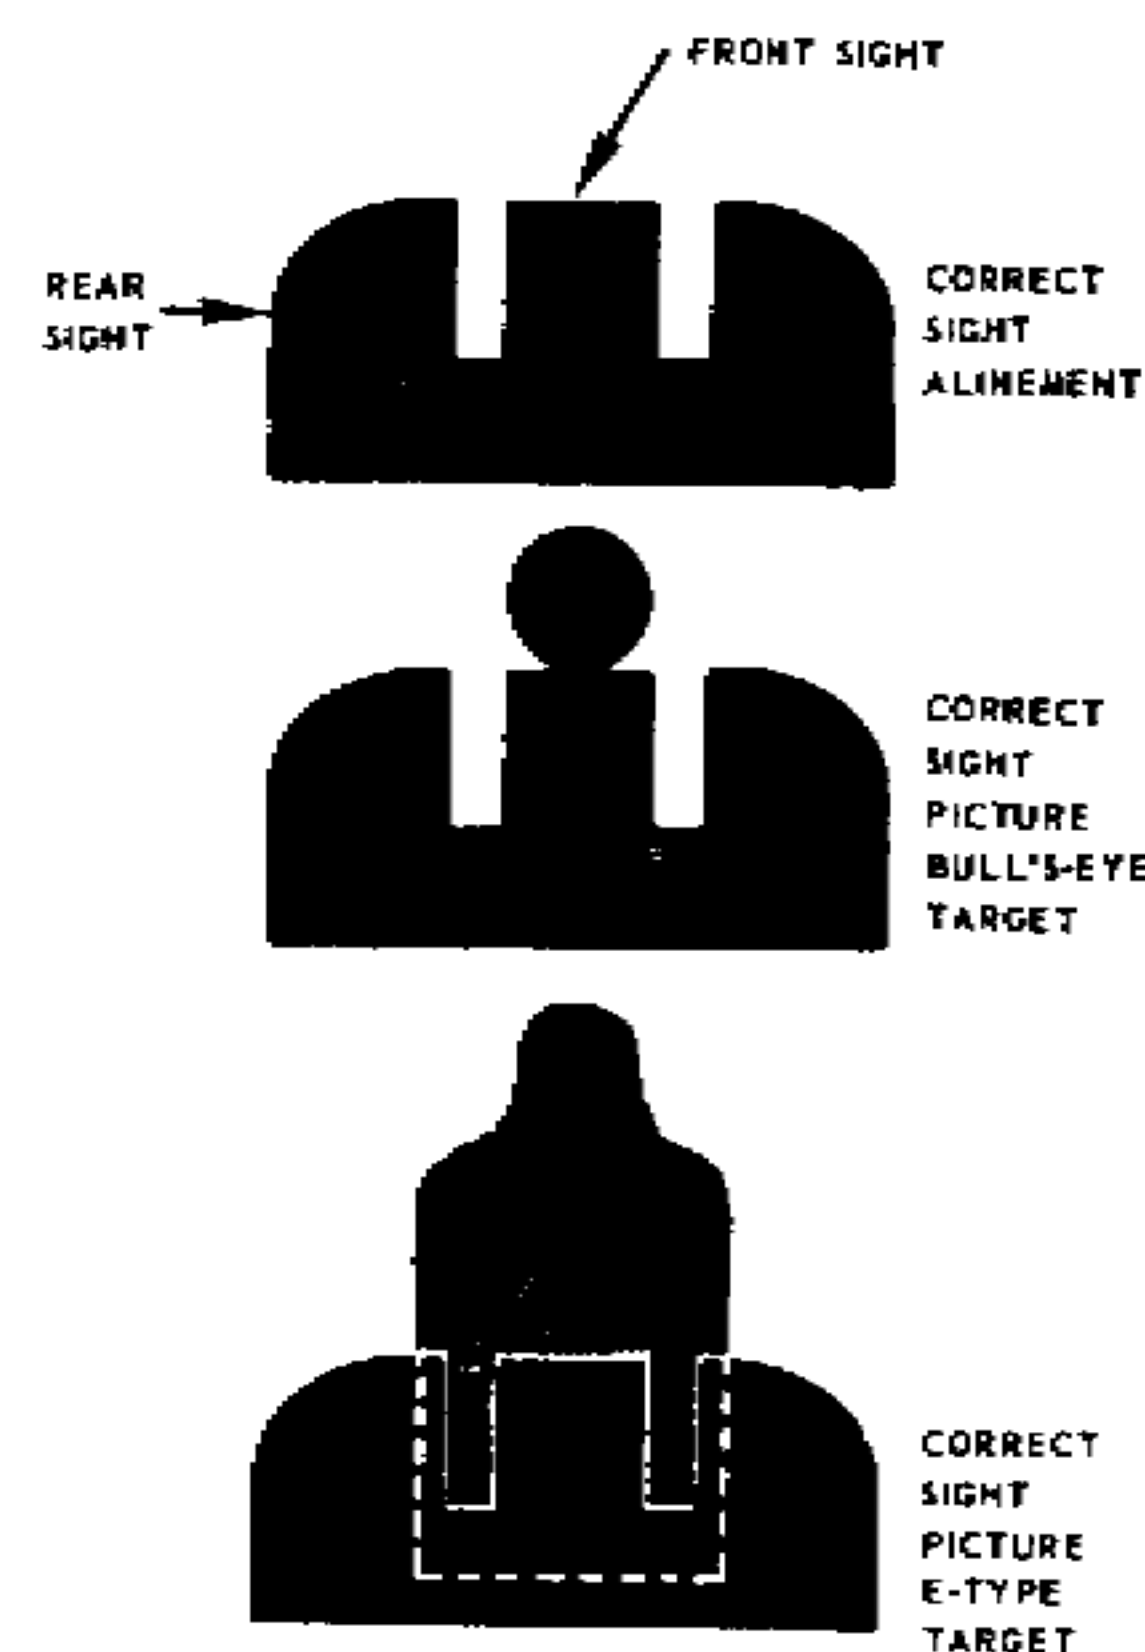

Figure 21. Correct sight alinement and sight picture.
- (3) If a firer is tense and nervous, have him breathe deeply several times to relax.
- (4) After each table of fire is completed, inspect the pistol to make sure it is clear. Score the target and record the results.
a. Sight alinement or aiming is placing the front and rear sights of the pistol into correct alinement with the eye. For correct sight alinement, the firer must center the front sight in the rear sight and raise or lower the top of the front sight, so that it is level with the top of the rear sight (fig. 21).
b. A sight picture is the pattern of the pistol sights in relation to the target as seen by the firer when he aims the pistol. A correct sight picture consists of correct sight alinement with the bull's-eye centered above and appearing to touch the top of the front sight (fig. 21). When aiming, the eye cannot focus on three objects (rear sight, front sight, bull's-eye) at different ranges. Therefore, the last focus of the eye is always on the front sight. The front and rear sights will be seen clear and sharp while the bull's-eye will appear to be a bit hazy. With correct sight alinement, the strike of the bullet will be in the bull's-eye even if the sight picture is partially off the center but still touches the bull's-eye. Since it is impossible to hold the weapon perfectly still, the shooter must understand that he must apply trigger squeeze